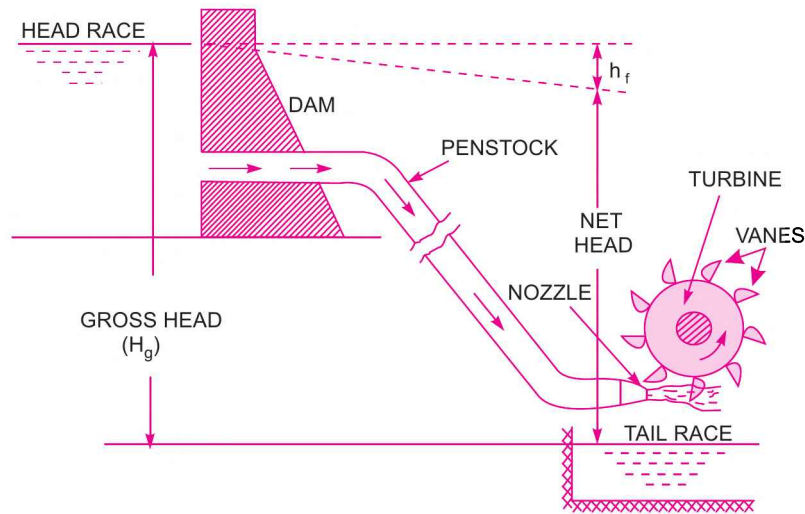

Fig. 18.1 Layout of a hydroelectric power plant.
Fig. 18.1 shows a general layout of a hydroelectric power plant which consists of :
1. Gross Head. The difference between the head race level and tail race level when no water is flowing is known as Gross Head. It is denoted by ' H_g ' in Fig. 18.1.
Fig. 18.1 shows the layout of a hydroelectric power plant in which the turbine is Pelton wheel. The water from the reservoir flows through the penstocks at the outlet of which a nozzle is fitted. The nozzle increases the kinetic energy of the water flowing through the penstock. At the outlet of the nozzle, the water comes out in the form of a jet and strikes the buckets (vanes) of the runner. The main parts of the Pelton turbine are :